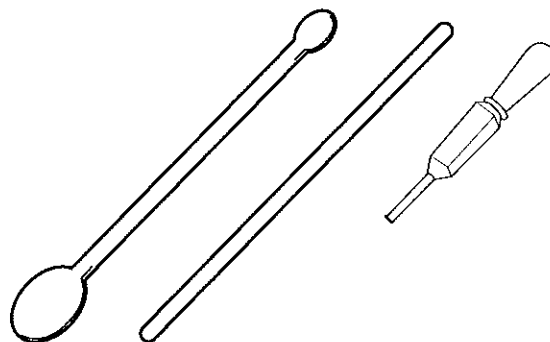

Fig. 3-1
(1) Implements used to apply samples (Fig. 3-1)